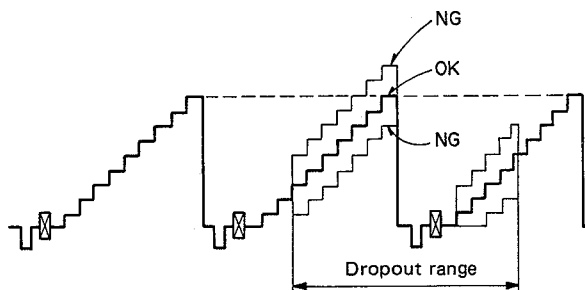

Fig. 29
3. Adjust R511 so that the amplitude of the dropout video signal becomes as same as that of the video signal without dropout. (Fig. 29)